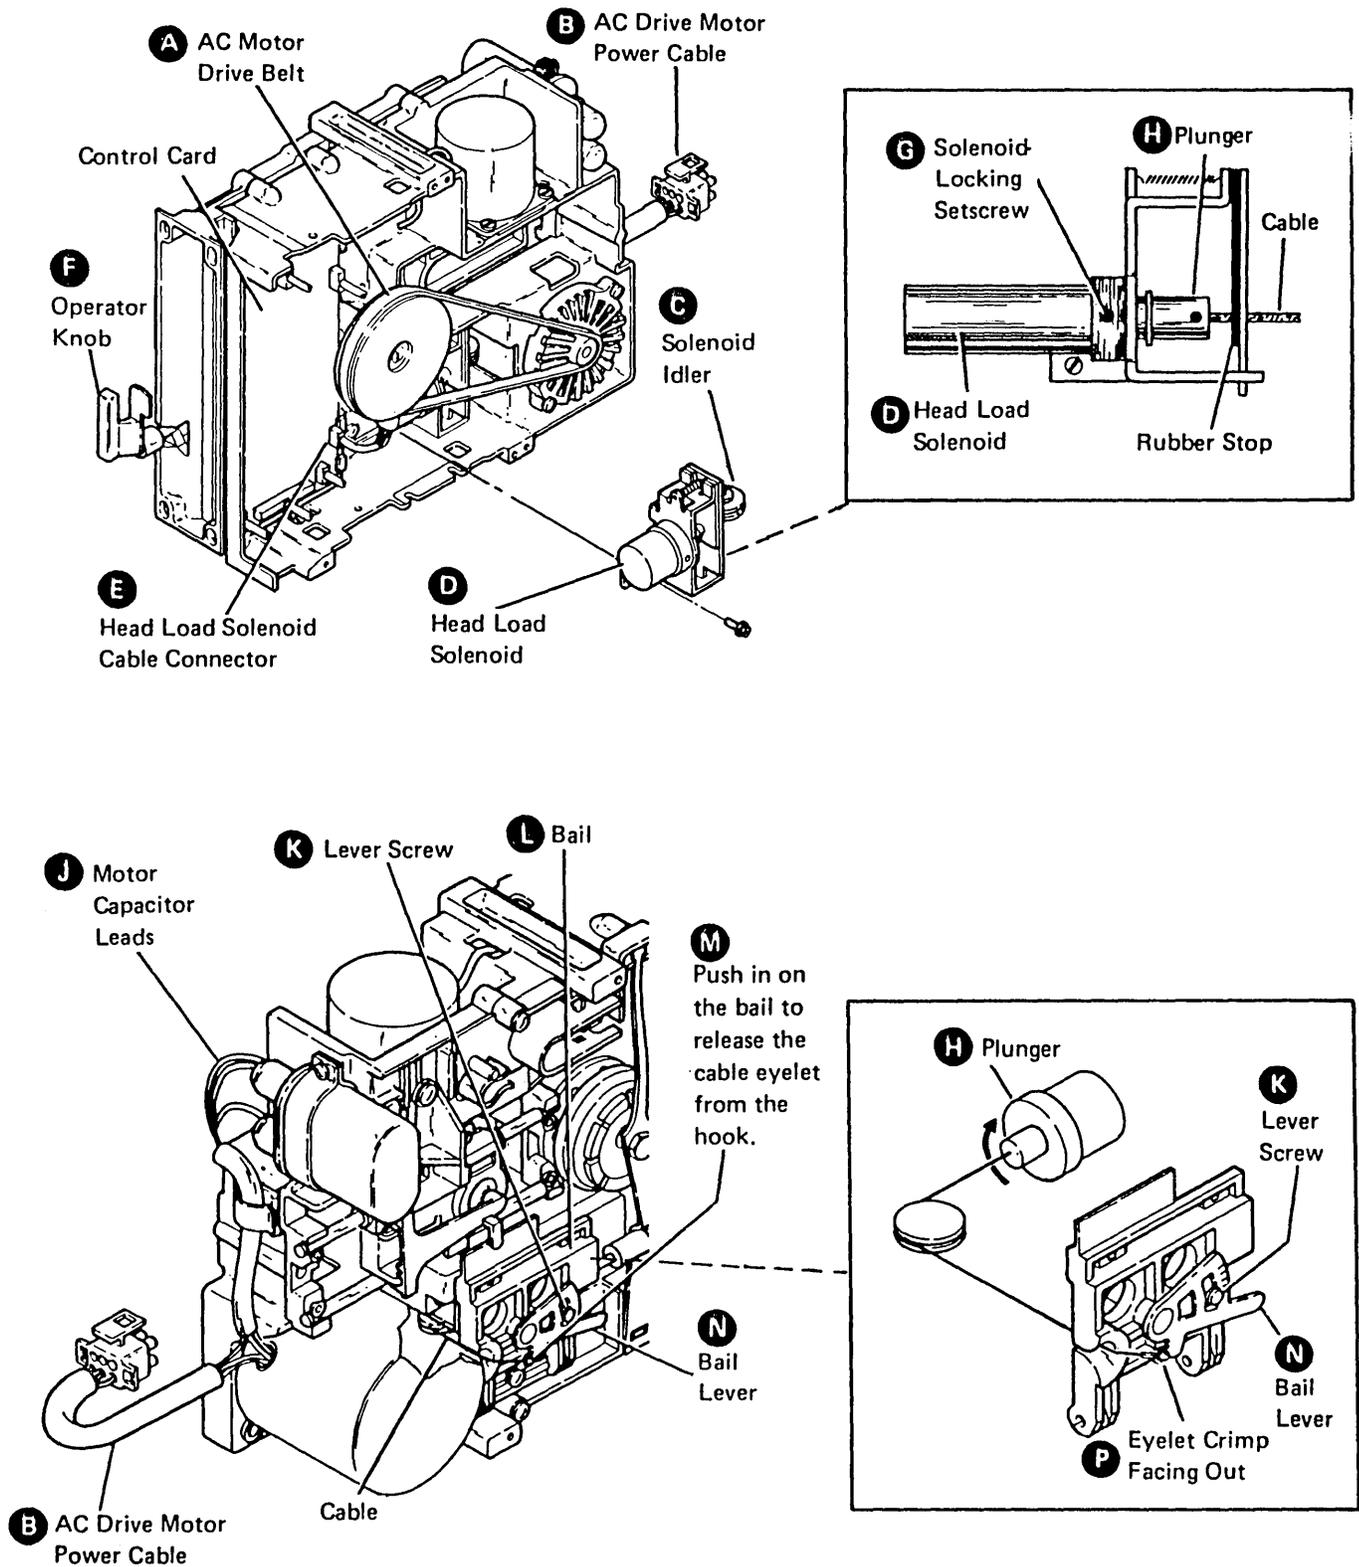

Figure F-30. Solenoid and Idler Removal
F.3.3.7 Solenoid and Idler Removal (Figure F-30)
F.3.3.8 Solenoid and Idler Replacement (Figure F-30)